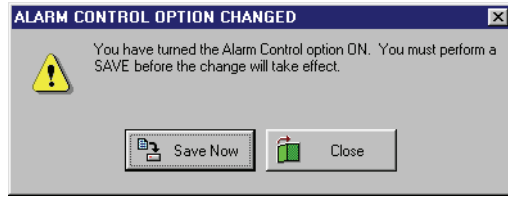

Figure 12-3: Alarm Control Option Changed Warning - ON
- If a PXL-510 controller is set up as the master controller, perform an autoconfiguration (see “Autoconfiguration” on page 32 in section 2). Once the autoconfiguration is complete, return to click in the check box beside the Alarm Control ON field. If a PXL-510 was detected as the master controller during the autoconfiguration, a check mark appears in the check box and the following window appears (see Figure 12-3 on page 4).